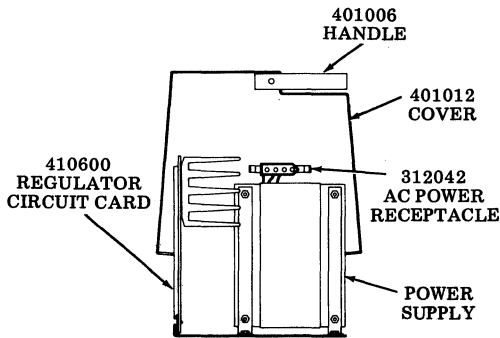

Fig. 5
- Slide the cover completely off of the power supply and place the cover aside. Remove the 403591 insulator facing the noncomponent side of the 410600 regulator circuit card (Fig. 5).